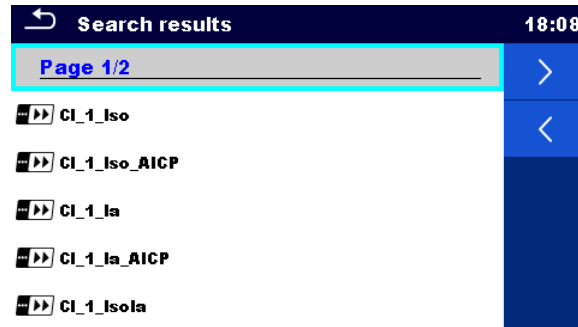
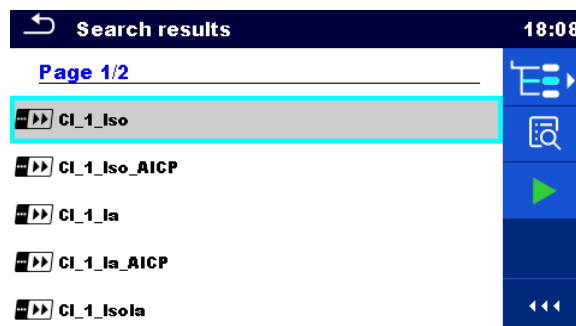

Figure 7.1: Search results screen – Page view
Figure 7.2: Search results screen with Auto Sequences® selected
| ④  |  | Search        | Searches through the active Auto Sequence® group according to the set filters.The results are shown in the Search results screen presented on Figure 7.1 and Figure 7.2 . |